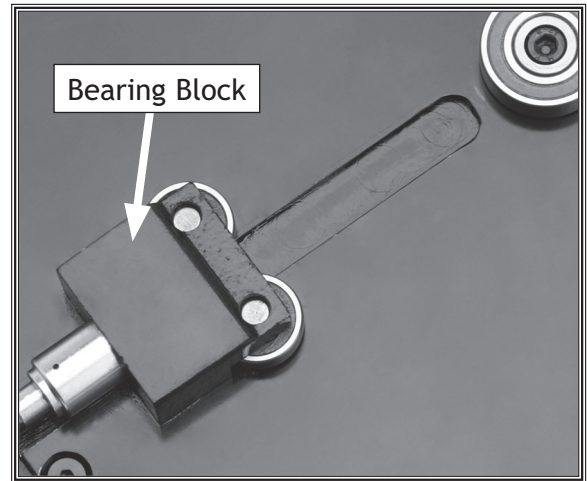

Figure 3. Support assembly bearing block.
3. Slide the dovetail on the bottom of the vise bearing block (**Figure 3**) into the dovetail groove in the base plate.